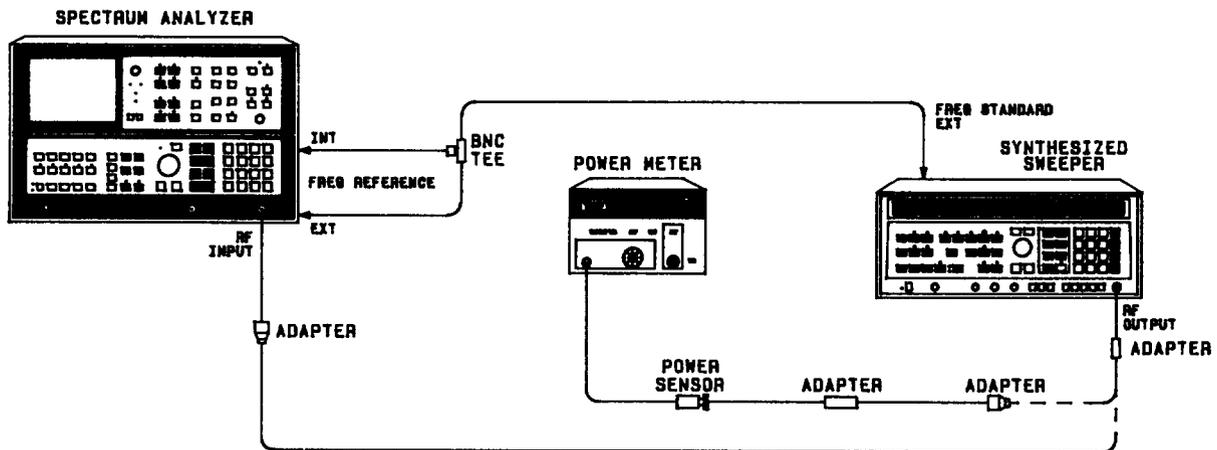

FIGURE 32. GAIN COMPRESSION TEST SETUP
- Connect equipment as shown in Figure 32, with output of synthesizer connected to power sensor. Power is measured at the end of the cable assembly, not at the synthesizer output connector. Adjust synthesizer output level for a power meter indication of $-20.00 \text{ dBm} \pm 0.05 \text{ dB}$.
- Disconnect cable assembly from power sensor and connect free end to analyzer RF INPUT as indicated in Figure 32. Key in analyzer settings as follows: